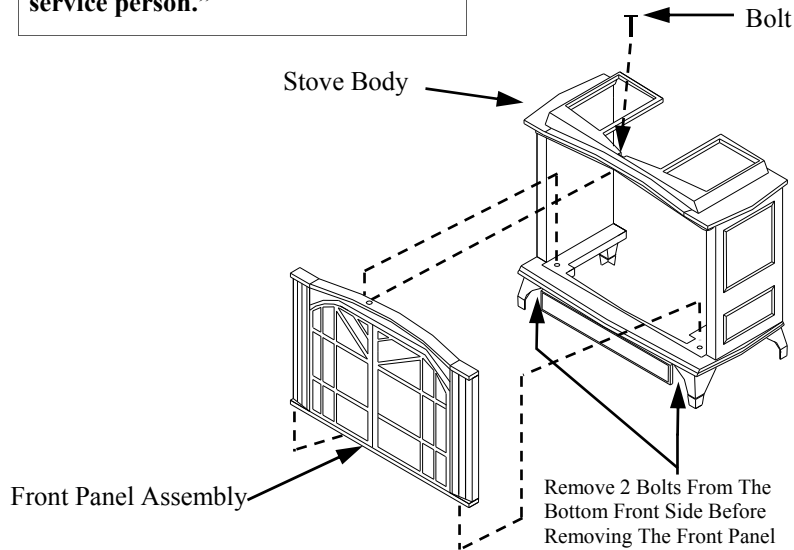

Figure 37- Removing Front Panel from Stove
1. Remove 2 bolts from bottom of stove (if still in place) and one from the top of stove to remove front panel (see Figure 37).